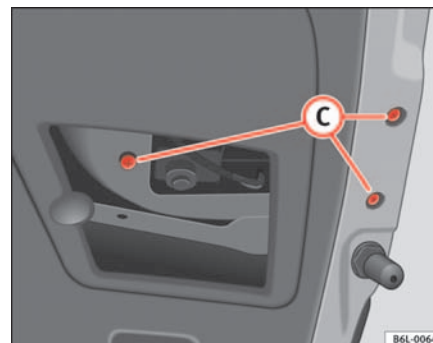

Fig. 154 Rear light on tailgate
- Extract the bolts **(C)** ⇒ page 211, fig. 154 and unplug the connector.